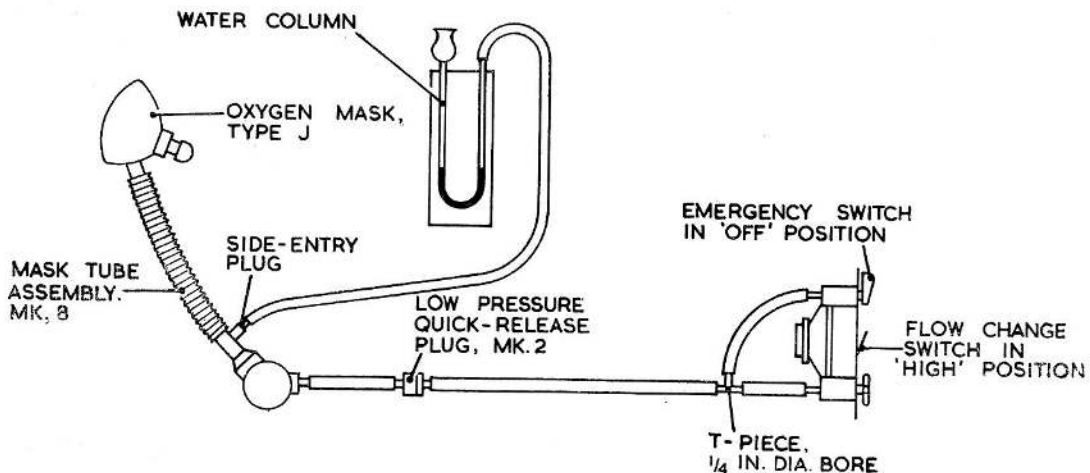

Fig. 18. Back-pressure test : mask
69. Test the expiratory valve for back-pressure at a flow of 40 litres (1.4 cu. ft.) per minute. (This is obtained from a Mk. 11D regulator with the flow change switch in the HIGH position and the emergency supply OFF, by combining the flows from both outlets through a T-piece as shown in fig. 18.) With the mask worn by the user and the equipment set up as shown in fig. 15, the back-pressure with the expiratory valve set to HIGH should be between 11 and 12.6 in. (28 and 32 cm.) on the water column. If the back-pressure is within these limits, turn the expiratory valve to LOW. The back-pressure should be between 4 and 7.9 in. (10 and 20 cm.) of water. The wearer must hold his breath while the reading is being taken.